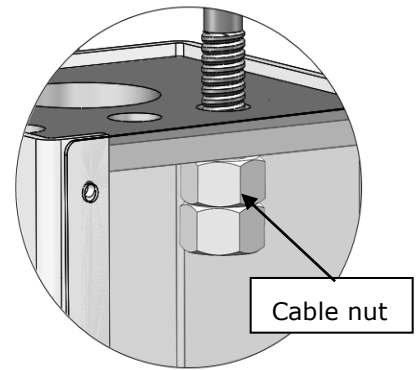

Fig. 44
1. Adjust the equalizing cable (See Fig. 44)